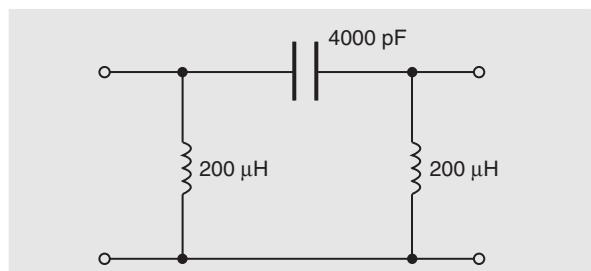

Figure 17.18
**Problem 5.** Determine the cut-off frequency and the nominal impedance for the high-pass  $\pi$ -connected section shown in Fig. 17.18.
Comparing Fig. 17.18 with the high-pass section of Fig. 17.16(b), shows that: